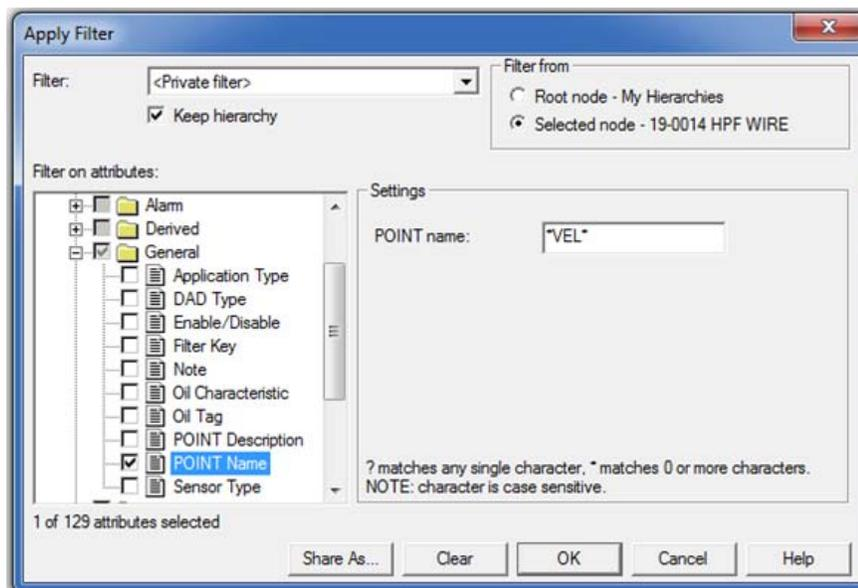

Figure 3. Apply Filter settings
- Expand the **General** folder and place a check in the **POINT Name** box. Then, in the Settings area, enter the criteria that will allow the filter to select only the required points. [Figure 3] Click OK when finished.